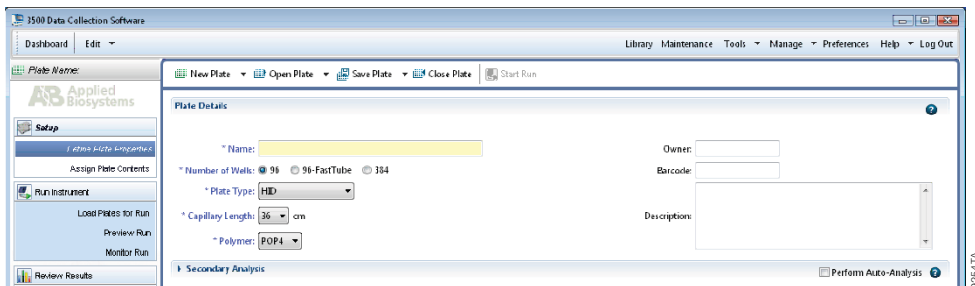

Figure 9. Defining plate properties.
9. Assign a descriptive plate name. Select the plate type “HID” from the drop-down menu (Figure 9).